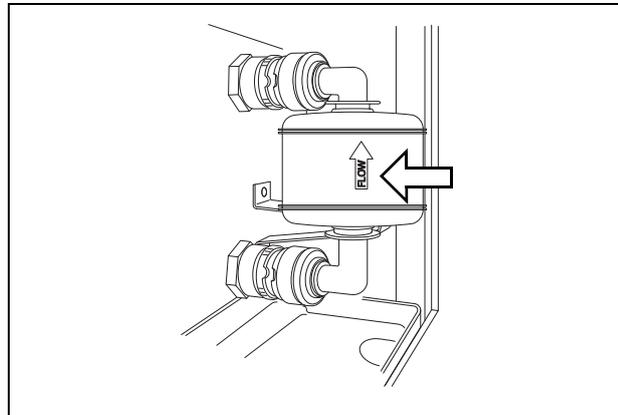

Figure 7.46
3. With the FLOW indicator pointing upwards, attach a new air filter by fitting into the two connectors until they click (see Figure 7.46).